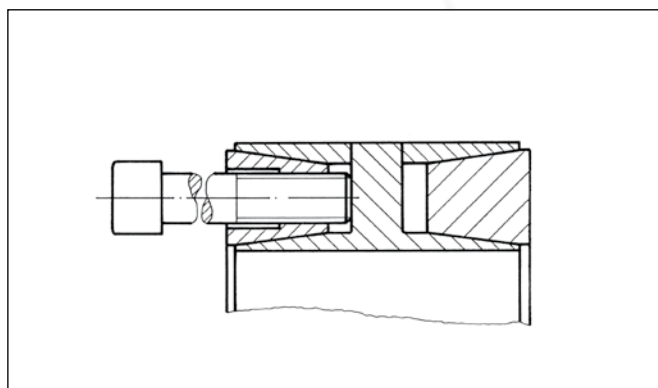

Figure 2: Removal front thrust ring
1.2 With larger Locking Assemblies, it is advantageous to insert several locking screws into the corresponding threads of the front thrust ring according to Fig. 2 and push against them.
2.1 The front thrust ring is released by having the jack screws pressed against the web of the inner ring (see Fig. 2).